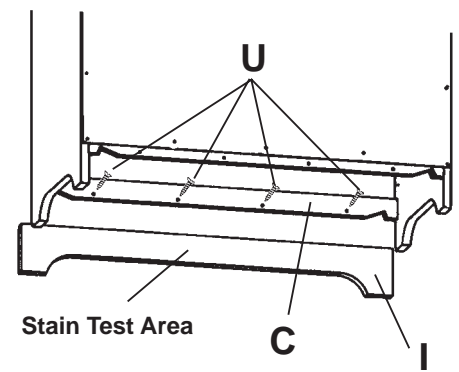

FIG. 5C
- b) Alder pieces—apply stain to back of base. See FIGURE 5C.
Slide the Base (I) under the lower end of the sides until it is flush with the bottom. Fasten in place with four #8x1¹/₄" Black Screws (U) through the holes in the front Sleeper (C). See FIGURE 5C.